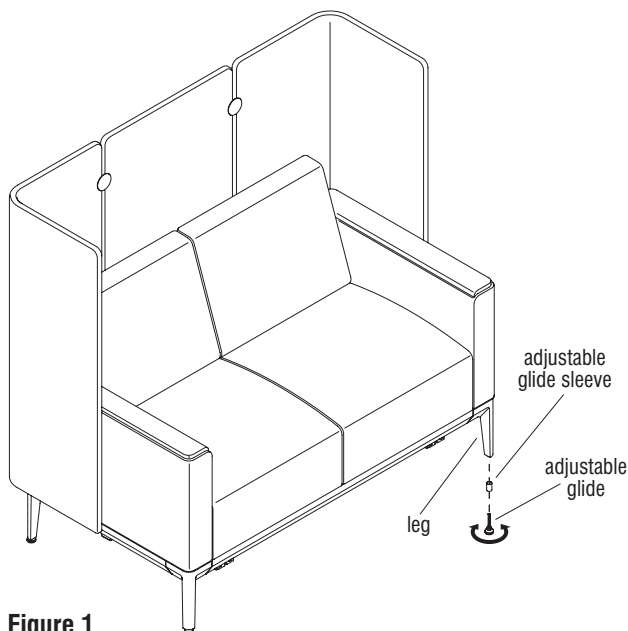

Figure 1
1. With the assistance of a second person, have one person lift the corner leg of the lounge that requires an adjustable glide replacement, while the second person rotates the glide counter-clockwise to fully remove the glide with adjustable glide sleeve from the leg (Figure 1 & Detail A).
2. Remove the adjustable glide sleeve from the adjustable glide and set aside for reinstallation at a later step (Figure 1 & Detail A).
1. Slide the adjustable glide sleeve over the threaded stem of the replacement adjustable glide (Figure 1 & Detail A).
2. With the assistance of a second person, have one person lift the corner leg of the lounge that requires an adjustable glide replacement, while the second person rotates the glide with sleeve clockwise to twist the glide into the bottom of the leg (Figure 1 & Detail A).
To raise the leg, rotate the glide counter-clockwise. To lower the leg, rotate the glide clockwise. The glide will provide up to $\frac{7}{8}$ " of height adjustment (Figure 1).